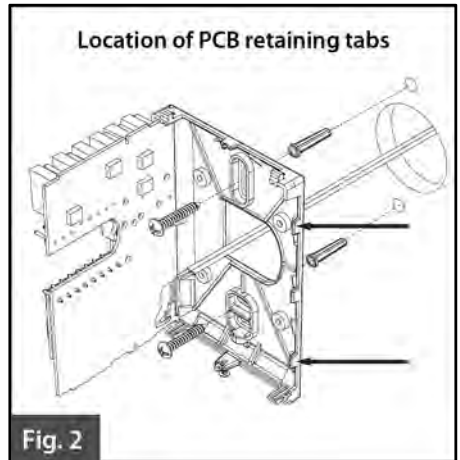

Fig. 2
7. Insert screws in mounting holes on each side of the base (fig. 2).